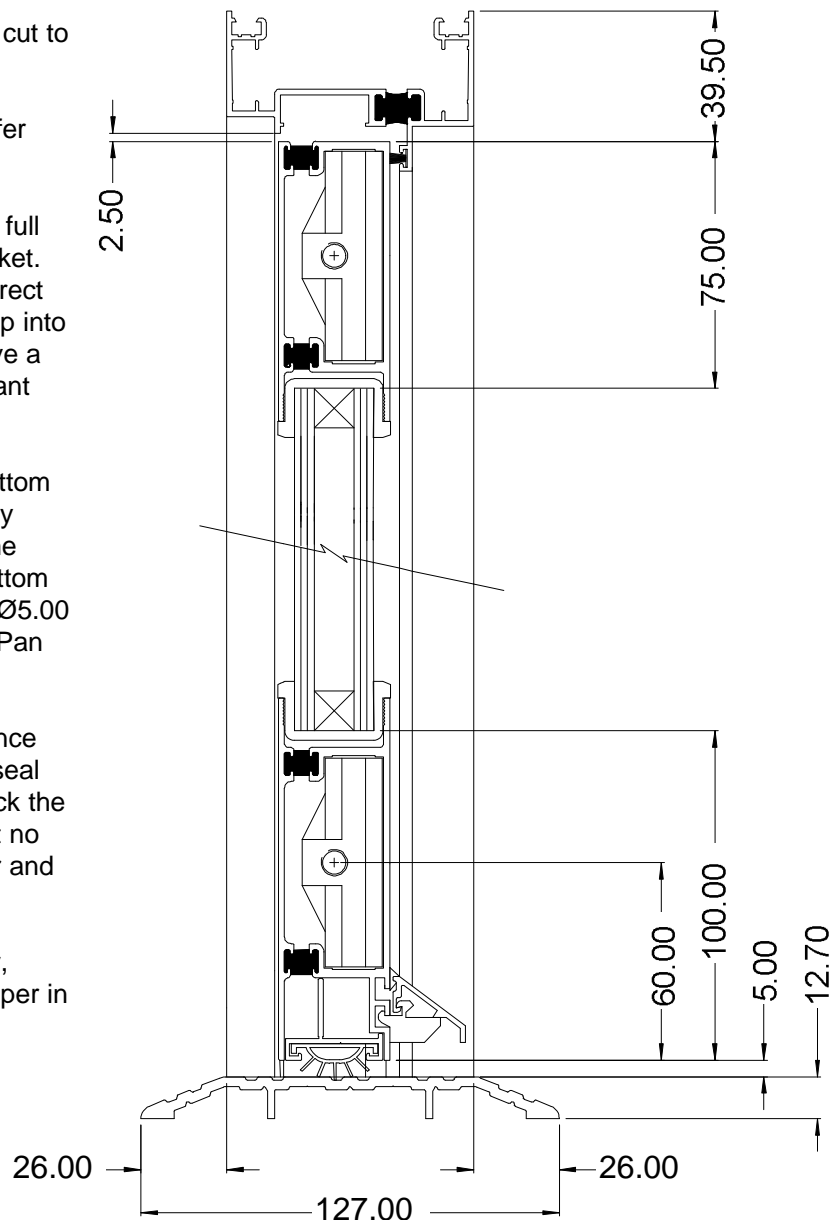

Fig.3.8.29
- Apply a liberal bead of sealant along full length of inner edge in bottom rail pocket. Check orientation of seal carrier is correct (Refer to fig.3.8.29) and slide carrier up into the rail pocket. This sealant should give a water proof seal with any excess sealant being cleaned off.